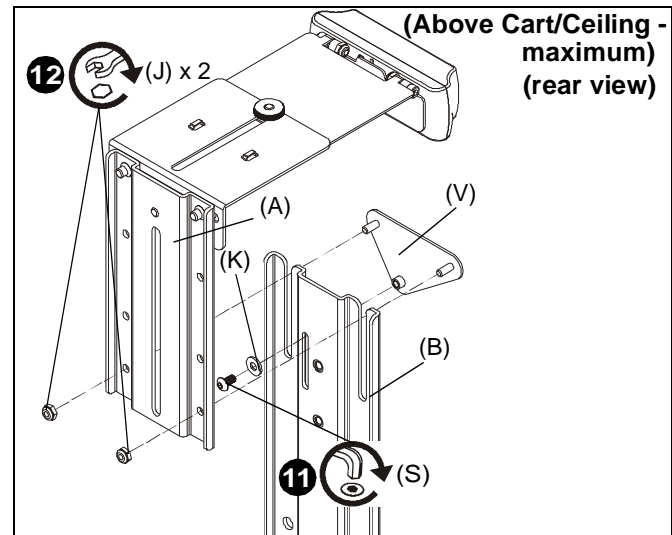

Figure 29
11. (For **maximum extension**) Use #10-32 x 3/8" button head cap screw (S) and small washer (K) to secure adapter plate (V) to main bracket (B). (See Figure 29)
12. (For **maximum extension**) Use two #10-24 lock nuts (J) to secure upright bracket (A) to main bracket (B) and adapter plate (V). (See Figure 29)